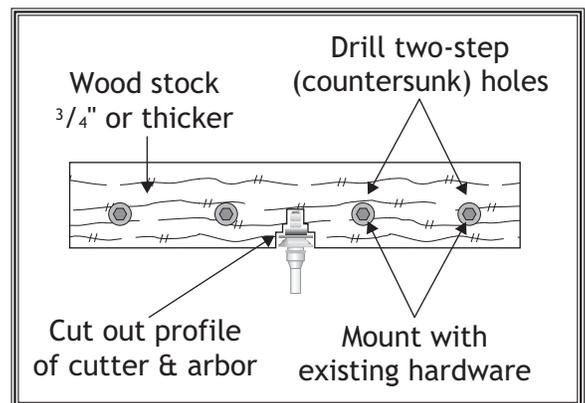

Figure 42. Example of a zero-clearance fence.
5. Cut an outline of spindle and cutter/bit from center of stock, as illustrated in Figure 42.